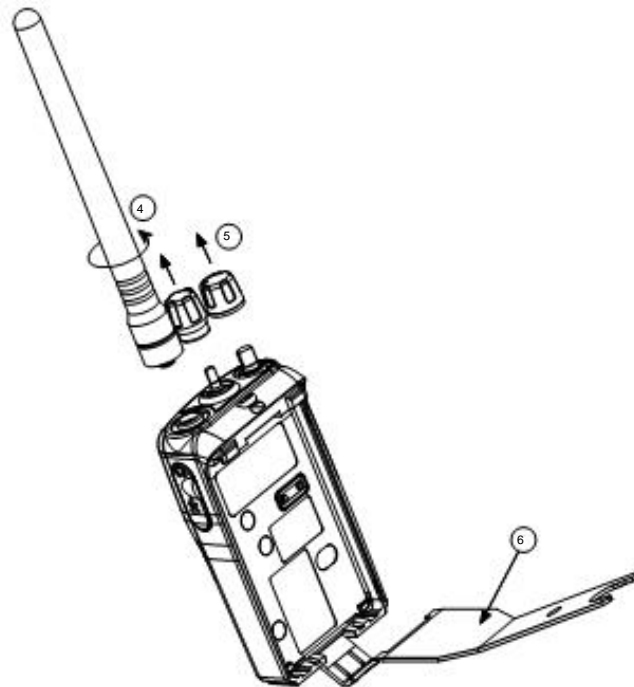

Figure 2-2
4. Remove the antenna by unscrewing it (see “Figure 2-2”).
5. Pull the On/Off Volume and Channel knobs out of their shafts using the Chassis Opener (see “Figure 2-2”).
6. Insert the Chassis Opener at the bottom of the radio, between the chassis and housing (see “Figure 2-2”). Lift the chassis gently. Be careful not to damage the housing or the O-ring underneath.